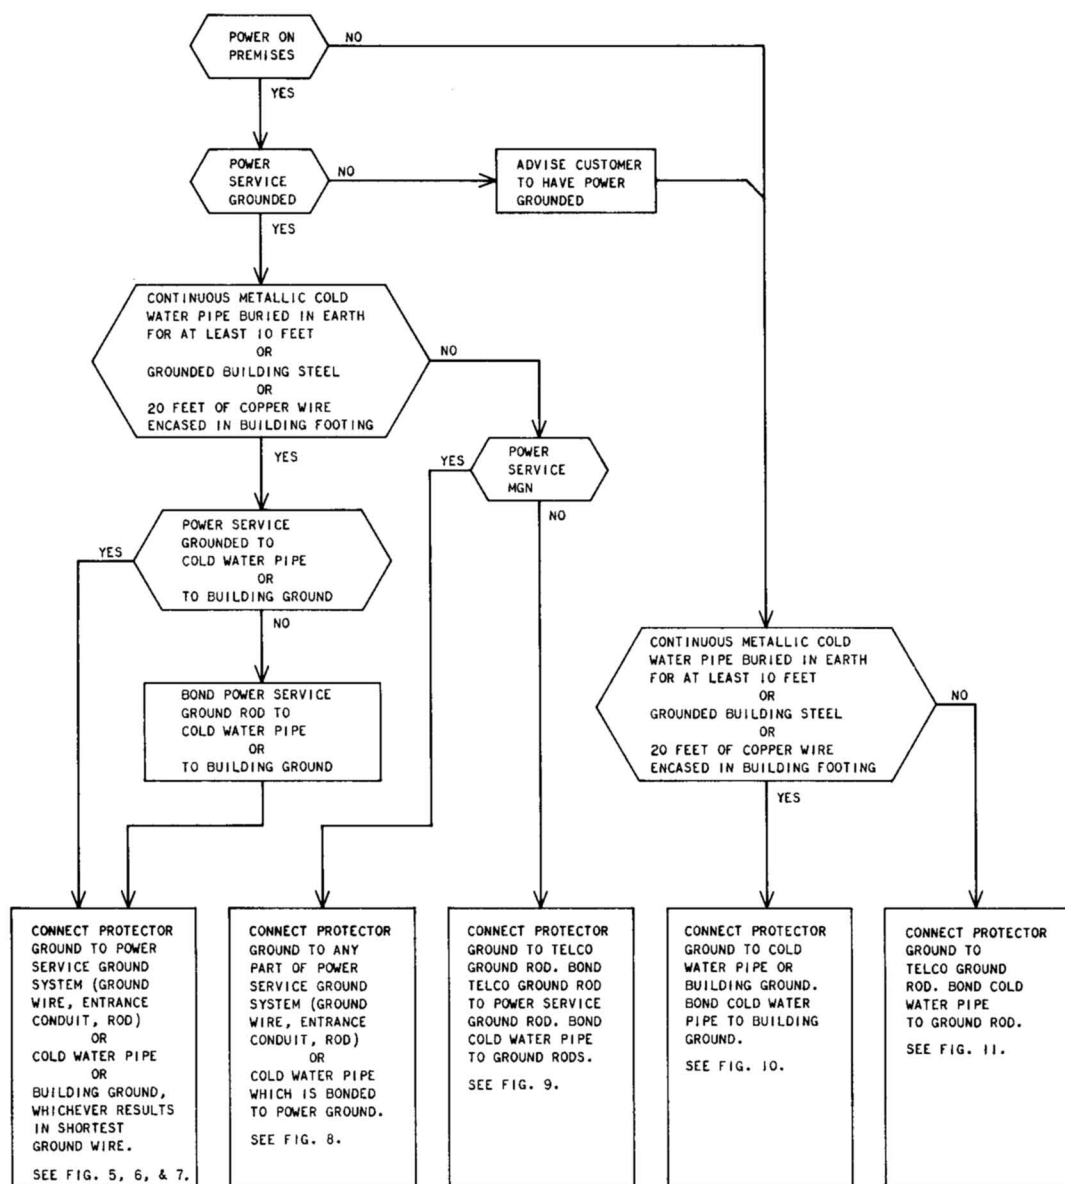

Fig. 4—Protector Ground Selection
4.06 Selection of an acceptable point for connecting the protector ground wire is of the utmost importance in achieving a well-protected installation. The protector ground serves as the primary KTS ground reference point. The flow chart in Fig. 4 is designed to help the installer identify the best choices of ground available in most job situations. The decision blocks contain questions regarding the installation conditions, the responses to which will lead to selection of an acceptable ground. The flow chart should be followed until the last block in the path is reached. The referenced notes and figures provide additional information and illustrations of actual installation procedures.
- Select best available system ground for protector ground connection (use flow chart in Fig. 4).